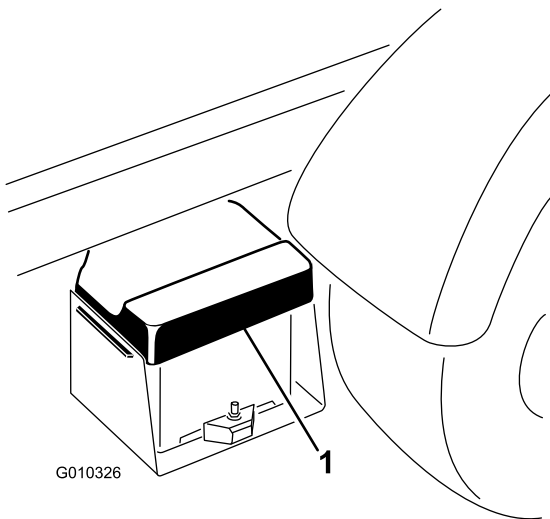

Figure 52
1. Squeeze the battery cover to release the tabs from battery base. Remove the battery cover from the battery base (Figure 52).